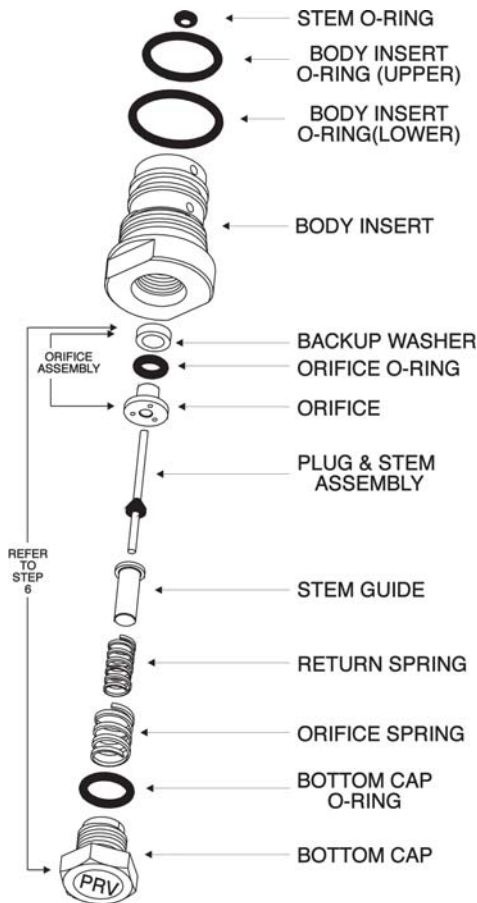

Figure 27 - Body Insert (Cartridge) Exploded view - Pressure Reducing Mode (PRV).
- Place the O-Ring on the Bottom Cap and stack the following parts on the Bottom Cap in the order shown in the drawing: Return Spring, Stem Guide, Orifice Spring, Plug and Stem, Orifice, Orifice O-Ring and Back-up Washer (Refer to Figures 27, 28 & 29).